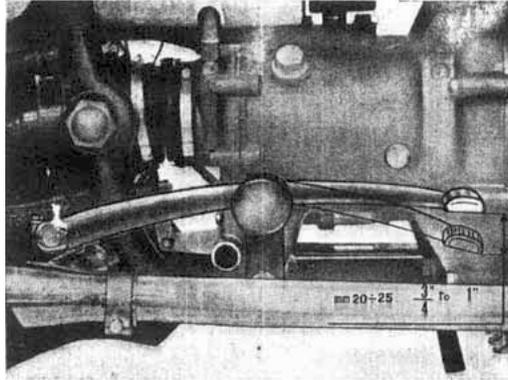

Fig. 33
**Rear brake pedal (See fig. 33)**